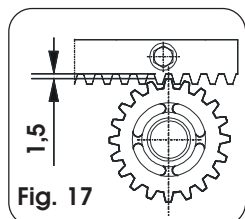

Fig. 17
- After you have finished installing the rack, to ensure correct meshing with the pinion, we advise you to lower the position of the gearmotor by about 1.5 mm (Fig. 17).